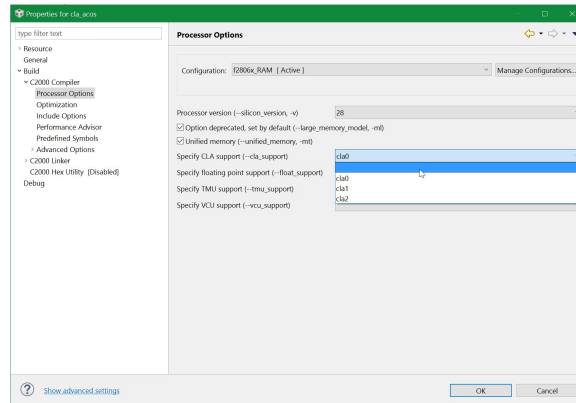

Figure 4.6: Turning on CLA support
3. Select the proper CLA type compiler support. Enable the `--cla_support` option in **Processor Options** as shown in Fig. 4.6